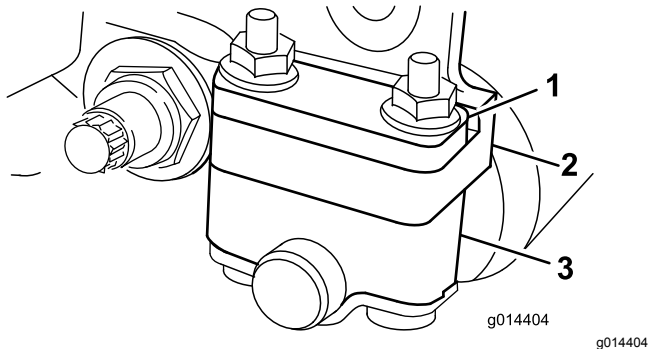
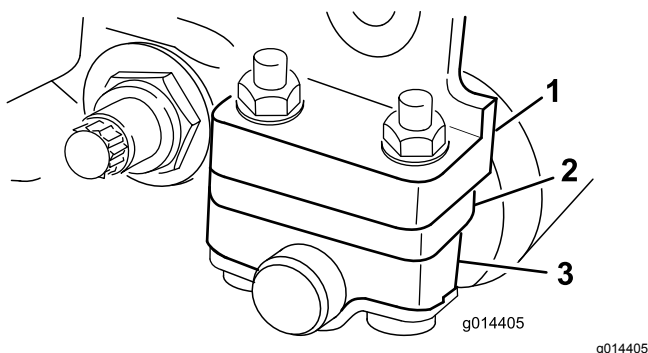

Figure 14
Figure 15
Depending on your desired height-of-cut range, adjust the rear roller brackets (Figure 14 or Figure 15) to the low or high position:
- Position the spacer above the sideplate-mounting flange (factory setting) when the height-of-cut settings range from 1.5 mm to 6 mm (1/16 inch to 1/4 inch) as shown in Figure 14.
- Position the spacer below the sideplate-mounting flange when the height-of-cut settings range from 3 mm to 25 mm (1/8 inch to 1 inch) as shown in Figure 15.
4. Place the spacers onto the screws above of below the roller brackets, as required (Figure 14 or Figure 15).